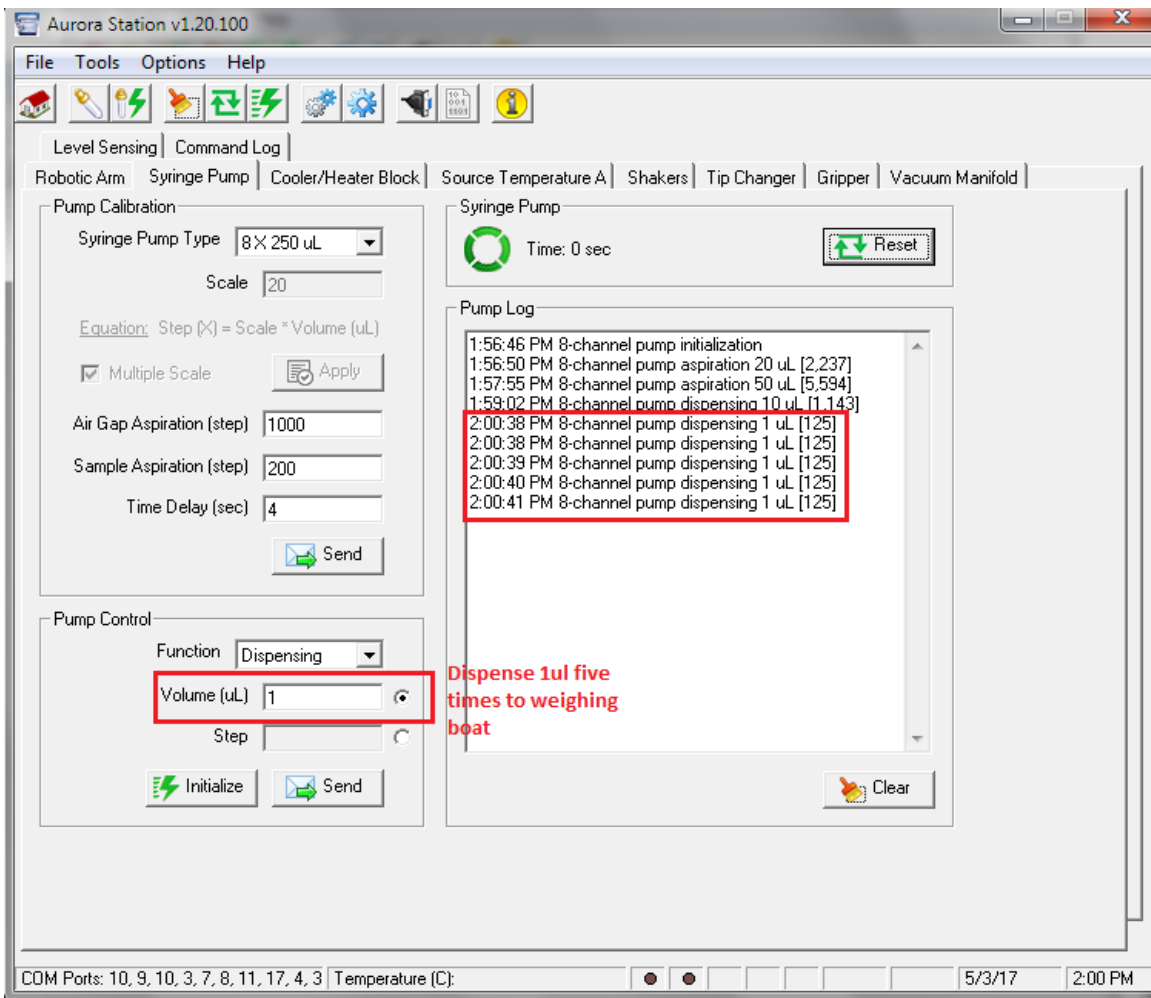

Figure 9-58 Syringe Pump –Dispense 1ul (five times) to weighing boat
10. Enter 1 μ L volume in the pump control, then aspirate and dispense it into a pre-tared weigh boat (making sure the tip touches the boat while dispensing). Repeat this 1 μ L aspiration and dispensing cycle in the same boat five times & then weigh the boat—it should be around 5 μ L. (Figure 9-58 Syringe Pump –Dispense 1ul (five times) to weighing boat) Divide this weight by 5 & get the volume of 1 μ L. Repeat it 10 times to calculate the CV. Repeat steps 5-9 again to finish 10 replicates. If the accuracy is not good, calibrate the system for 1 μ L again.